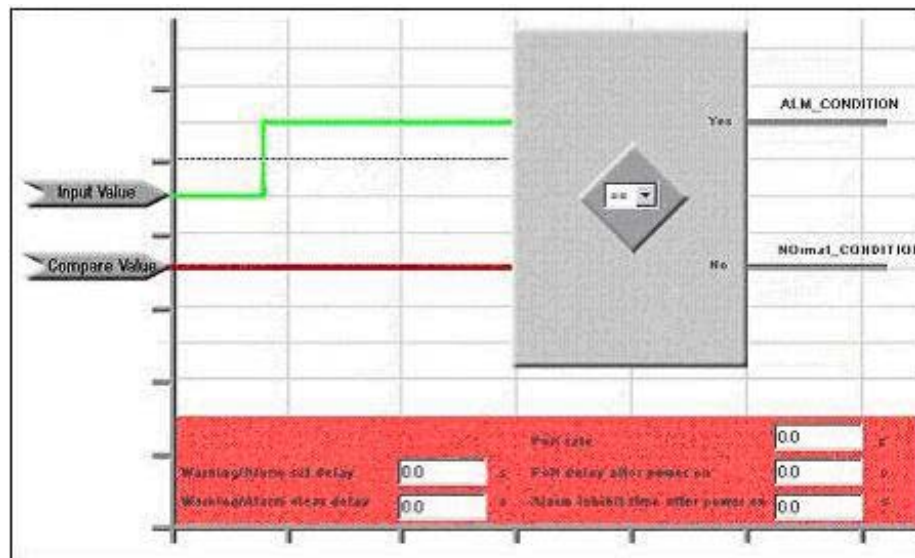

Figure 5.4 Alarm Generator Binary Comparison
10. Select the type of alarm you want to use by clicking either the **Binary** or **Analog** buttons and then clicking **Alarm?**, or by clicking the appropriate icon next to the buttons. If you choose **Binary**, the Web page shown in Figure 5.4 will open.